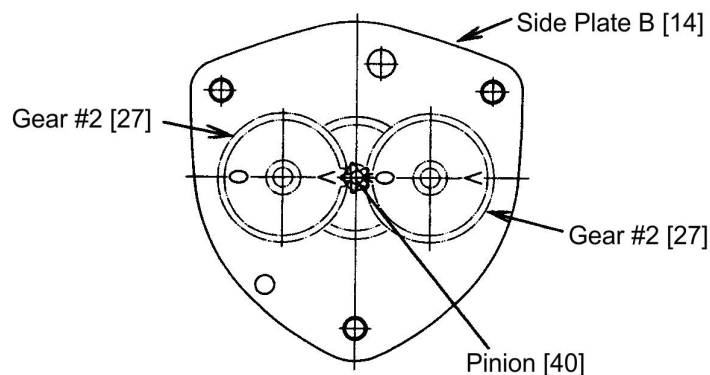

Figure 6-4 Gear Train Assembly
- 8) Grease the two gear #2 [27] (one for 1/2T), the load gear [25], and the gear of the pinion [40]. Place them in side plate B [14] in the correct gear plane. Letters "O" and "V" on the gears must face each other as shown in figure 6-4 below. Do not forget to apply grease to the boss on both sides of gear #2.